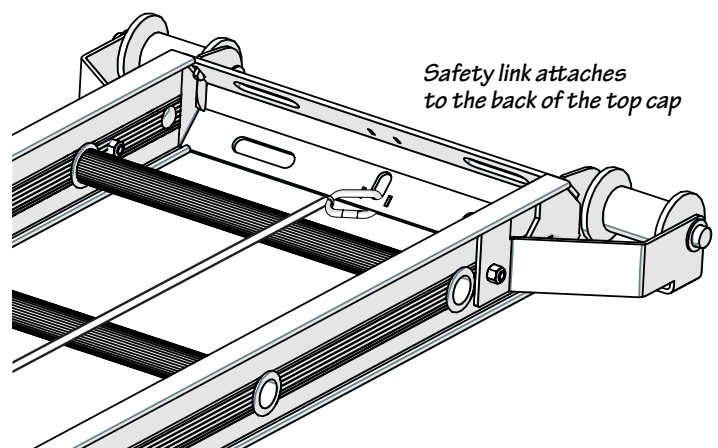

Fig. 7-3
- Attach the safety link to the back of the top cap as shown in Fig 7-3. **IMPORTANT: The cable must lie on the front side of the tracks.**